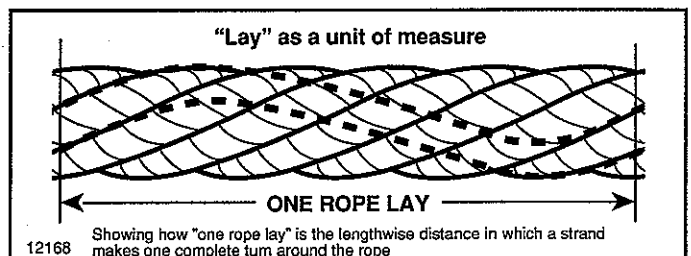

Figure 8-3. Description of One Rope Lay.
(2) Broken outside wires exceeding twelve randomly distributed wires in one rope lay, or four broken wires in one strand in one rope lay. (See Figure 8-3.)